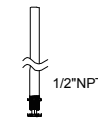

Figure8
1. Unscrew the nuts on 1/2" NTP(Figure8)